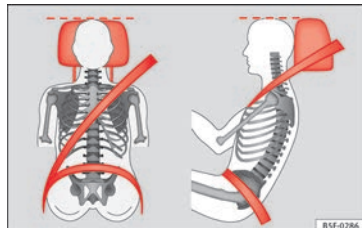

Fig. 4 Correctly adjusted head restraint as viewed from the front and the side.
- Adjust the head restraint so that its upper edge is, as far as possible, at the same level as the top of your head, or at the very least, at eye level » **Fig. 4**.